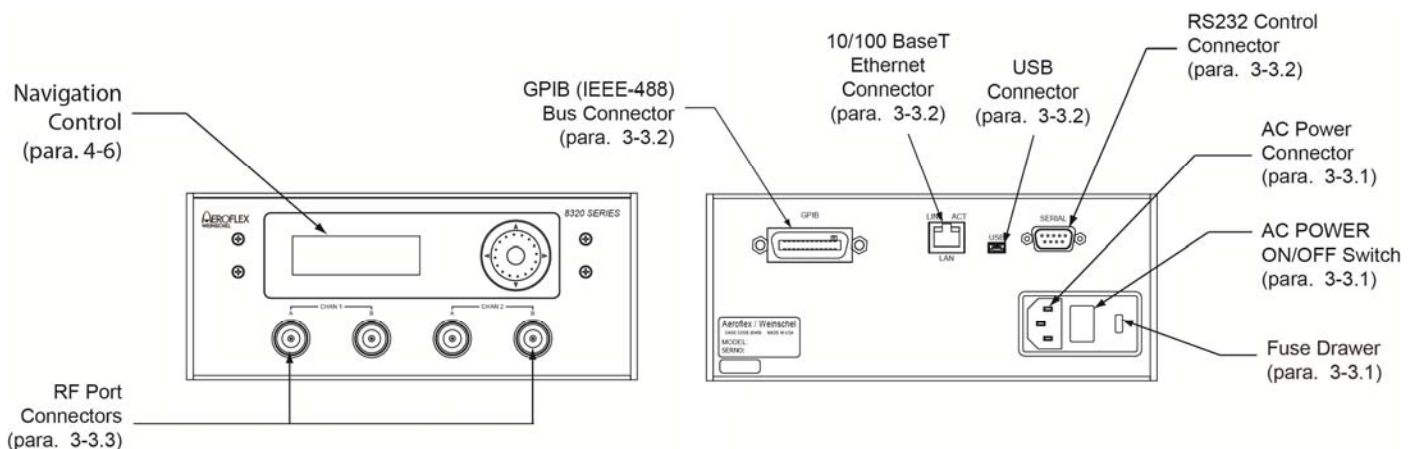

Figure 2. Model 8320 Front/Rear Panel Connectors
**3-3 INPUT/OUTPUT OPTIONS:** The following paragraphs provide a description of the connections that can be made to the Model 8320 & 8321 Series. Figures 2 (8320) and 3 (8321) show the location of these connectors and switches.
**3-3.1 POWER ENTRY MODULE ASSEMBLY:** The Power Entry Module Assembly located on the rear panel contains a three-prong AC power input connector and a fuse drawer assembly (Figure 2 and 3). The **Fuse Drawer Assembly** contains the line voltage fuse. The Model 832X Series uses a 250 Vac fuse which is 5 x 20 mm in size. The current rating of the fuse is stated on the rear of the unit.
The **AC Power Connector**, located on the left side of XF1 (Figure 2 and 3), is a plug-type, prong insert connector with three conductors for connection of the power cord (P/N 068-21) to the Power Supply Assembly located within the Unit. This connector also grounds the chassis of the Unit when the ac power cord is connected to a grounded wall outlet. If necessary, use a three prong to two-prong adapter and connect the adapter's ground lead to the outlet plate retaining screw.